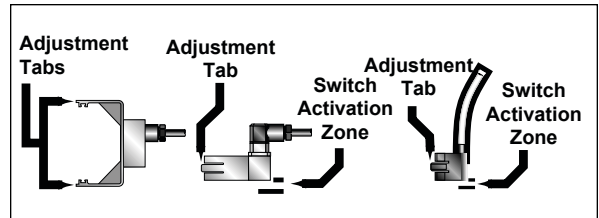

Figure 21. Switch Adjustment & Activation Zone
1. With fluid running through the meter, gently move the switch adjustment tab(s) outward until the switch body is free to slide up or down on the serrated rail. See Figure 21.
2. Move the switch into position until the switch activates. See Figure 21.